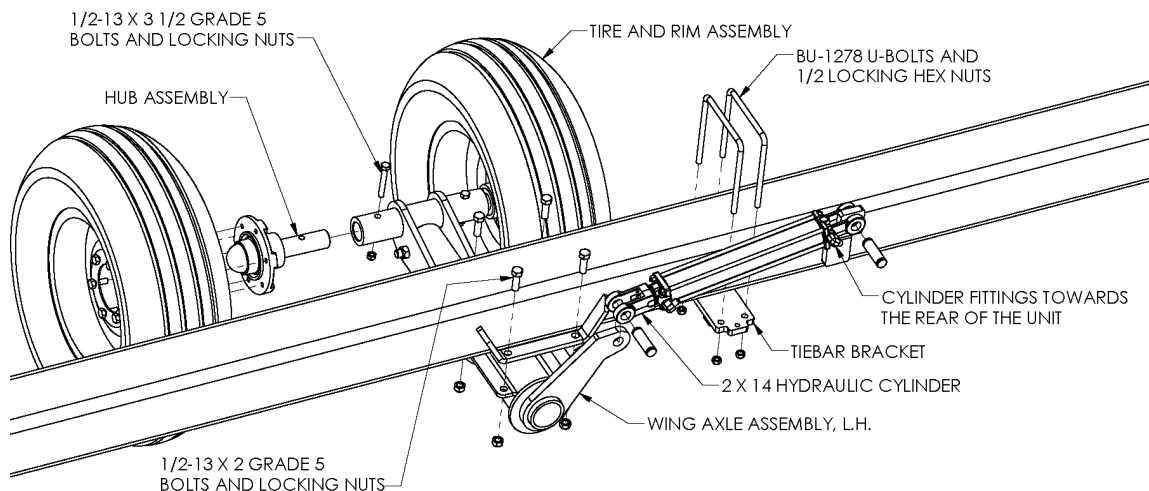

Figure 8
1. Mount the Tiebar Brackets to the wing tube between the cylinder post and the wing/transport wheel assemblies as shown in Figure 8. Use two 1/2 x 7 x 8 U-bolts and locking hex nuts. The location of these brackets should be the same on the right- and left-hand wing tubes.